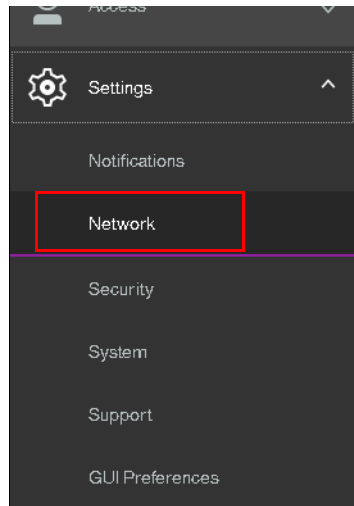

Figure 5-59 Configuration: Network
- Switch to the configuration Overview window and select **Network** (Figure 5-59 on page 239).